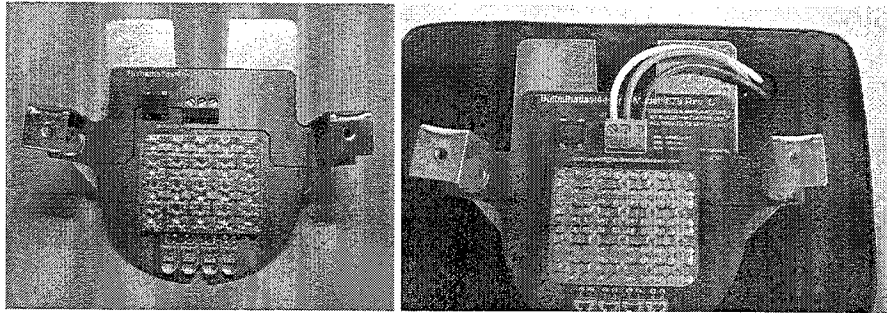

Figure 6
6. Install the converted reflector plate shown in Figure 6 (left) into the rubber-backing pad. Then feed the preassembled wires into the back of the rubber backing plate from behind. Continue to feed all the wires through so that they can reach the LED Board's terminal block. Insert the White wire into the left slot, the Green wire into the center slot, and the Brown wire into the right slot as shown in Figure 6 (left). Then tighten the terminal block screws using a flat-blade jeweler's screwdriver.